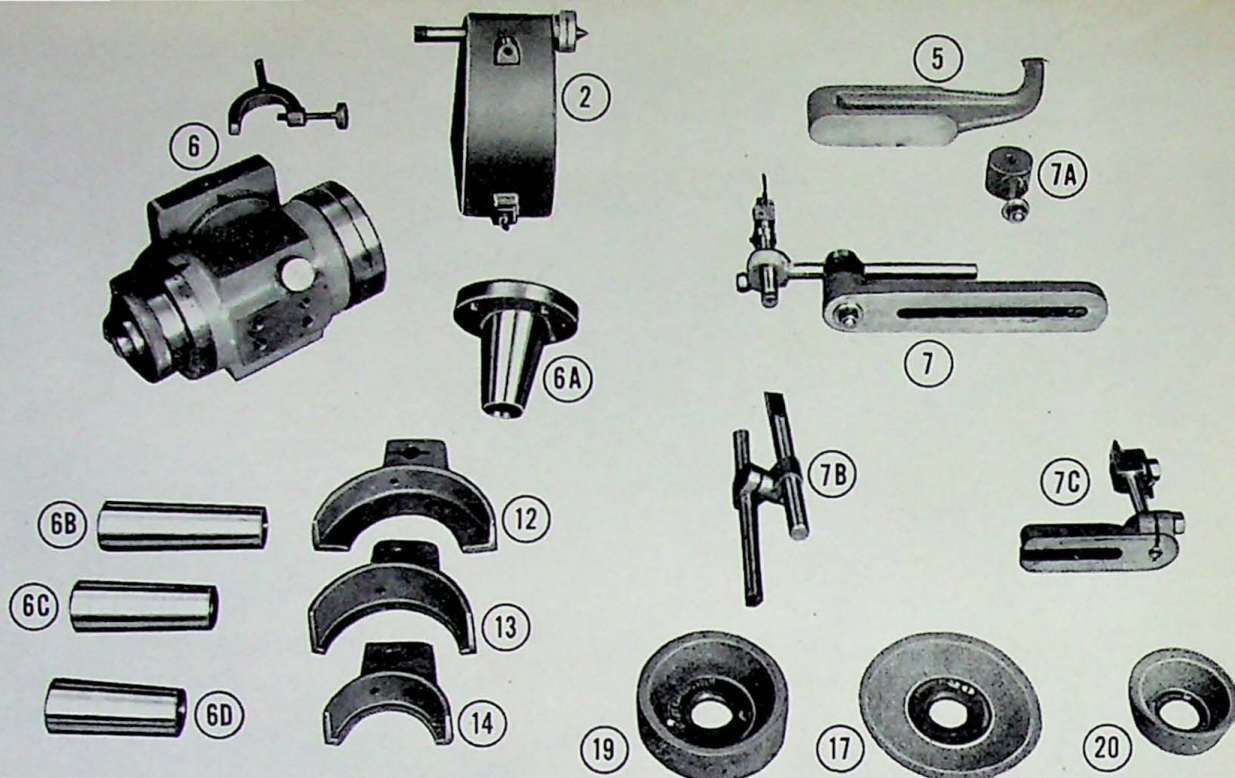

Figure 15 — Code Word Twobt
For grinding radii 0" to 2" on face mill cutters 2" to 14" dia. Top part is face mill attachment (Fig. 15, Item No. 6).
This attachment is used for grinding small end milling cutters (and similar tools) with a No. 7, or smaller, Brown & Sharpe taper shank. The end mill which is being ground is held in a long, round, 1" diameter bar. The bar slides very easily and smoothly in a hardened adjustable split collet. The collet is in turn held in the spindle of a medium size Face Mill Grinding Attachment (item 6, Fig. 15). Feeding, as well as indexing, is accomplished by moving the bar, which operates freely. It is thus unnecessary to move the heavy carriage of the machine. Overall length, 14". Net weight, 10 lbs.
For cutter and tool grinding .....See fig. 15